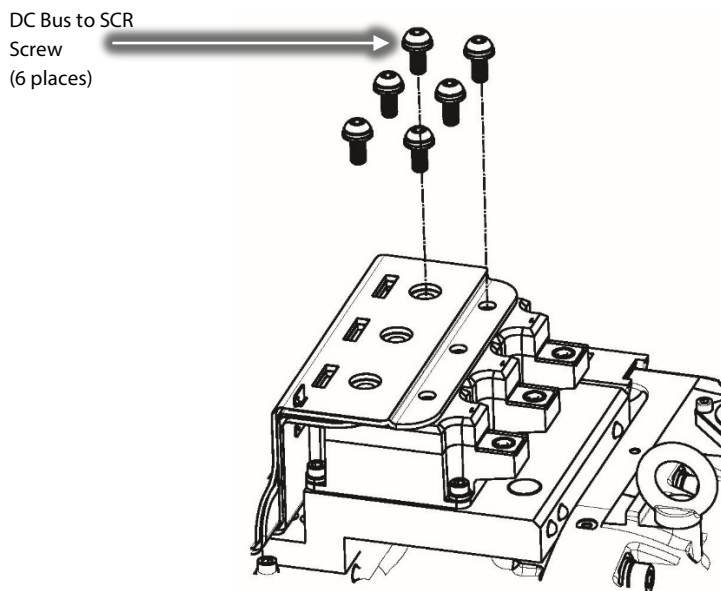

Figure 9 – SCR Bus Screw Removal
- Remove the six (6) DC bus screws from the SCRs. Refer to Figure 9 (SCR Bus Screw Removal).
17. Connect the snubber capacitors to the Inverter noting the leg orientation and torque to 7 Nm (5 ft.lb.) starting from the DC Bus Capacitor side. Refer to Figure 9 (Snubber Capacitor Removal).